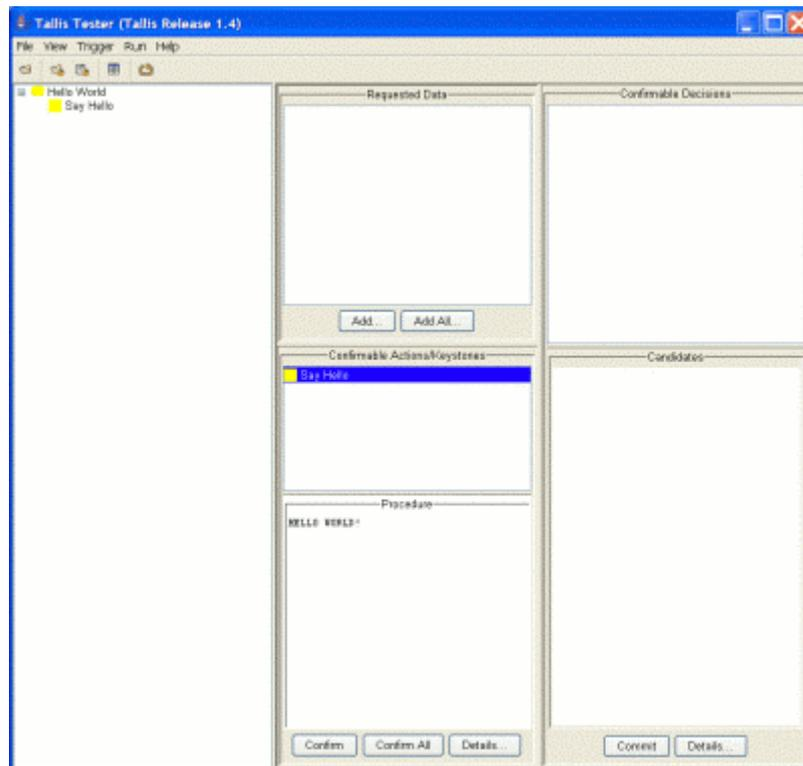

Figure 8: Testing the completed "HELLO WORLD!" process
9. You can run the application via your web browser by selecting Run > Run in Tester (or clicking the Run in Tester button on the toolbar ). This should invoke the Tester application that will allow you to test your guideline, viz: one plan containing one action (see Figure 8).